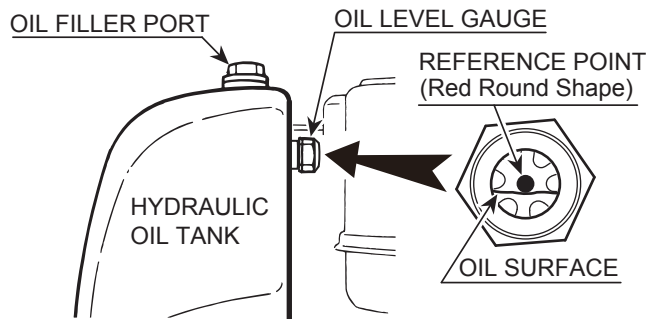

Figure 4. Hydraulic System Oil Level Gauge
1. Check the oil level gauge (Figure 4). Oil level should be at the reference point or higher. Fill as required.